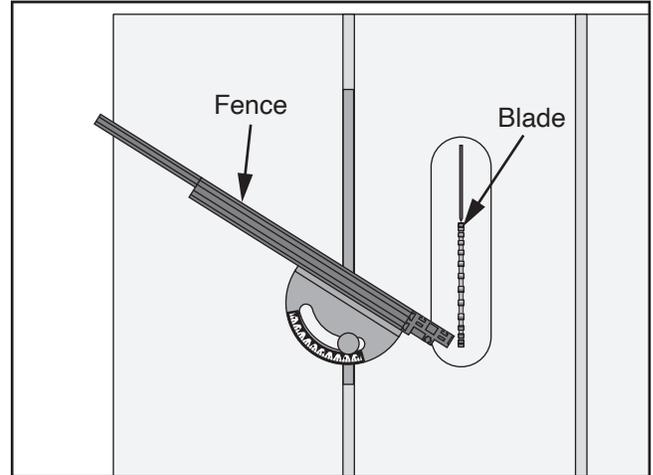

Figure 8. Checking for blade clearance (blade guard removed for clarity).
5. Push miter gauge forward in miter slot to confirm fence will not contact blade (see **Figure 8**), then return it to starting position.